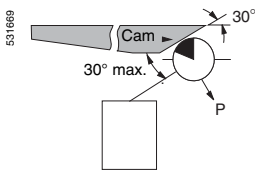

Figure 2
**Figure 2** shows leading edge of cam about to depress and actuate the electromechanical limit switch. The black sector of the roller indicates the recommended design limits of the angle of pressure shown in drawings as "P".